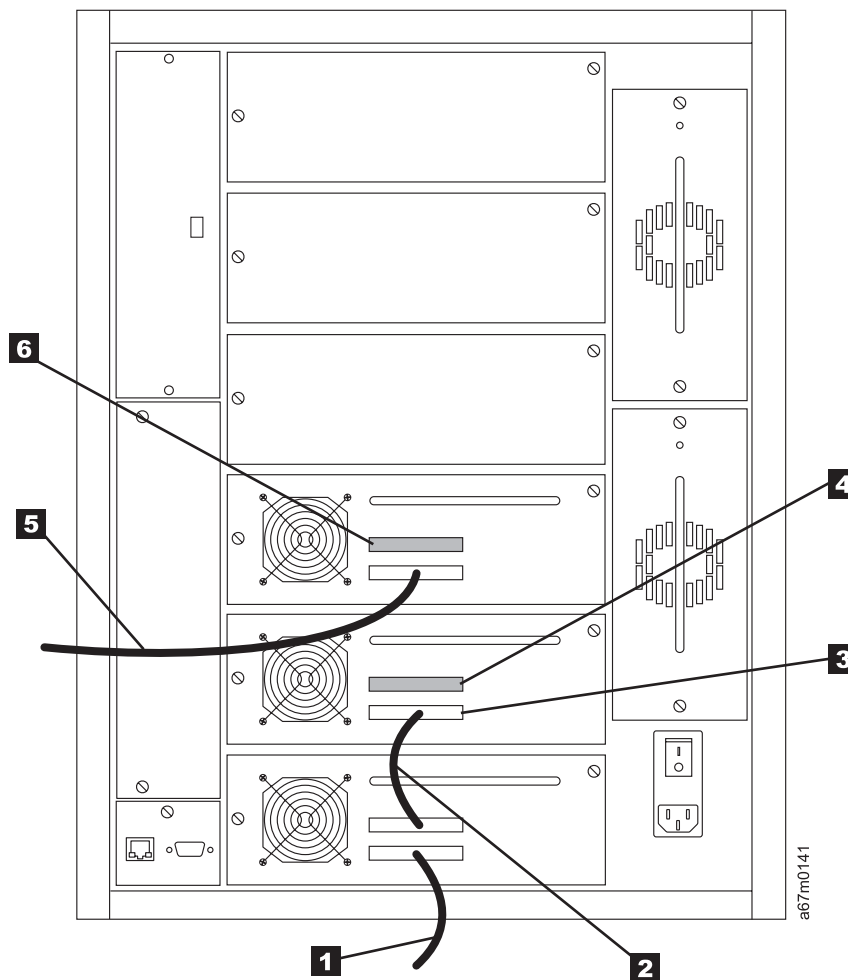

Figure 14-34. Making the host-to-drive connections with the SCSI Multi-Path feature and two hosts
1. Attach the first host cable (**1** in Figure 14-34) to the lowest available drive in the logical library.